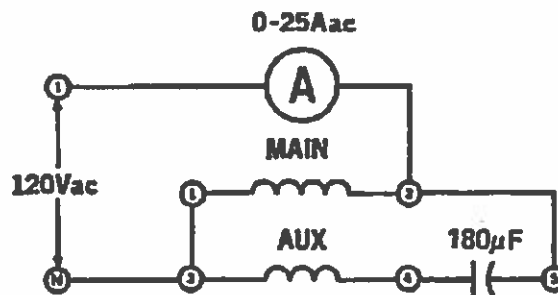

Figure 34-3.
4. a. Connect both windings in parallel, terminals 1 to 3 and 2 to 5, as shown in Figure 34-3.